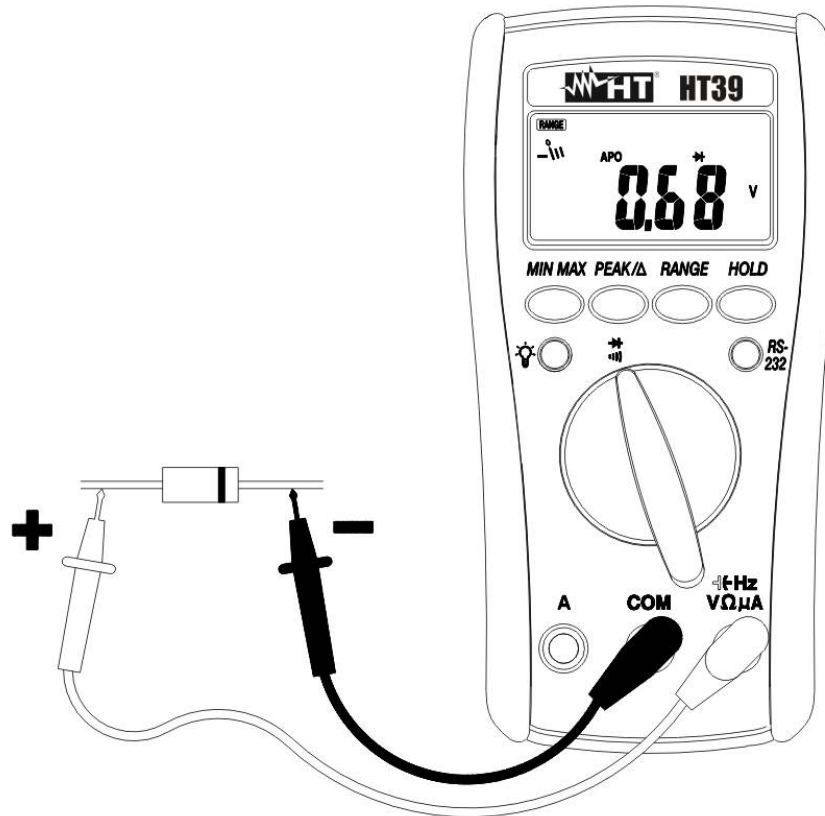

Fig. 9: Diode test and test continuity
2. Insert the test leads into the jacks, the red plug into \rightarrow HzVΩμA jack and the black plug into **COM** jack (Fig. 9).